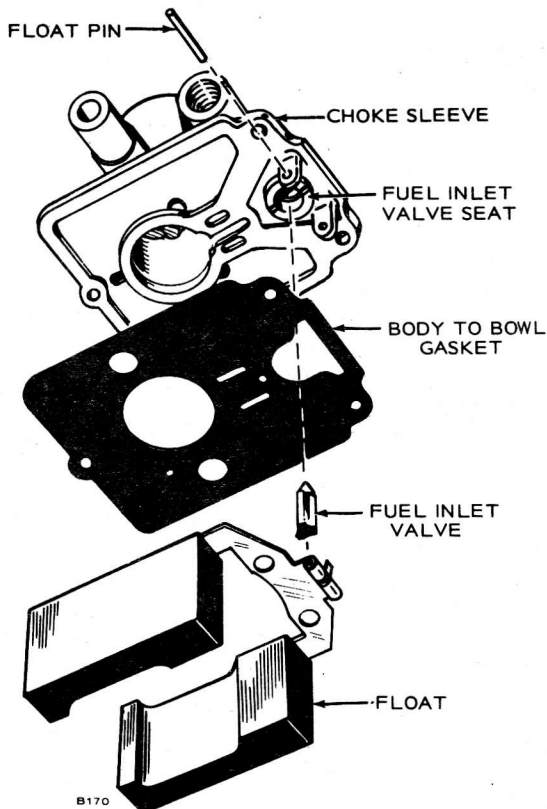

FIGURE 32. CARBURETOR DISASSEMBLY
3. Remove the float pin and float. See Figure 32.